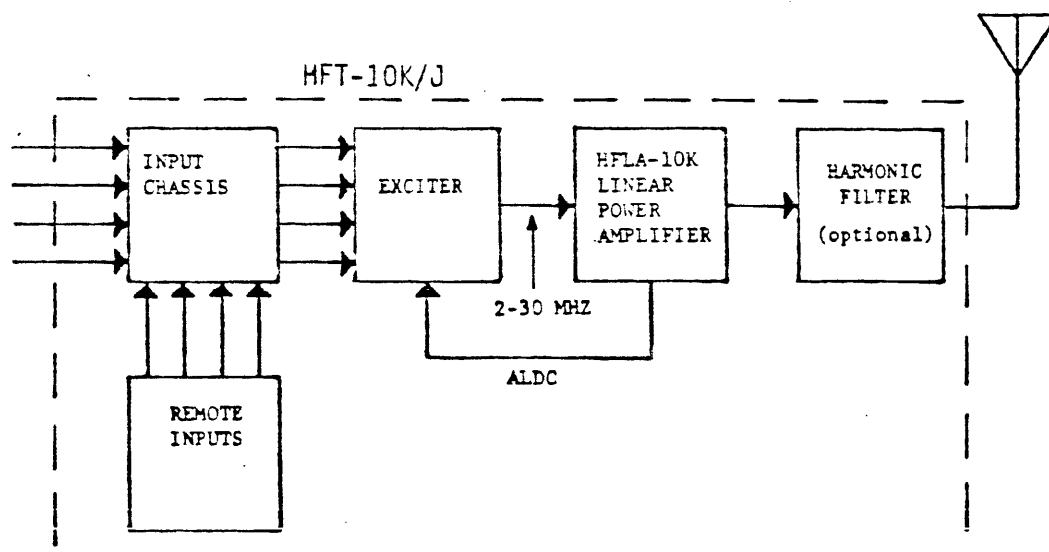

Figure 4-1. Functional Block Diagram
Figure 4-1 is an overall block diagram of the HFT-10K which consists of an Exciter driving an HFL-10K Linear Power Amplifier. The exciter should provide at least 100 milliwatts average r-f power to the HFL-10K within the operating range of 2 to 30 MHz. The HFL-10K provides linear amplification of the r-f output and provides 10 kilowatts PEP within the operating frequency range of the transmitter. The transmitter r-f is applied to a transmitting antenna which matches the 50 ohm output impedance of the HFT-10K/J.
- a. Overall block diagram (Section 4, Figure 4-1)